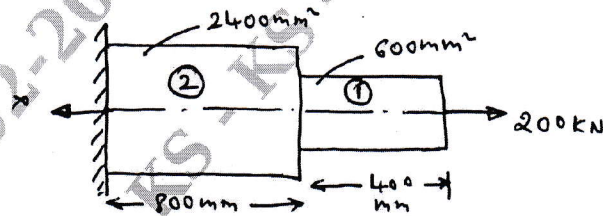

Fig.Q.3(b)
b. A stepped bar shown in Fig.Q.3(b). Determine the nodal displacement and stresses at each node. Take $E = 2 \times 10^5 \text{ N/mm}^2$.